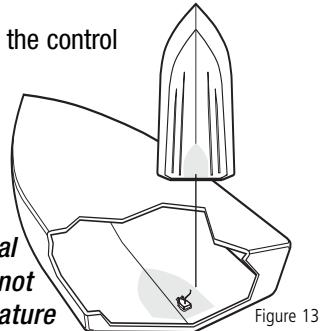

Figure 13
- As a general rule, the faster the boat can travel, the further aft and closer to the centerline of the hull the transducer has to be located to remain in contact with the water at high speeds (Figure 13).